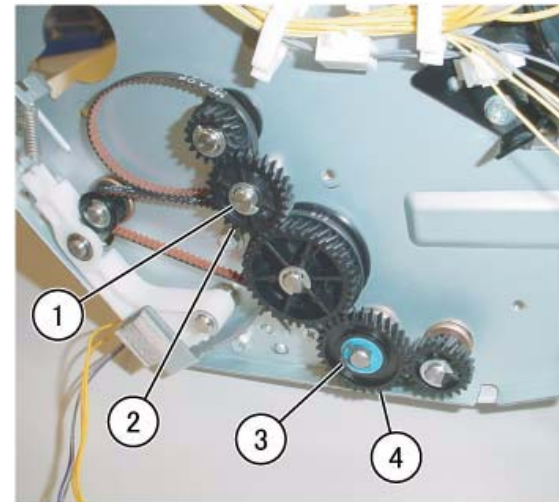

Figure 1 Removing the Gear
5. Remove the Gear (Figure 1):